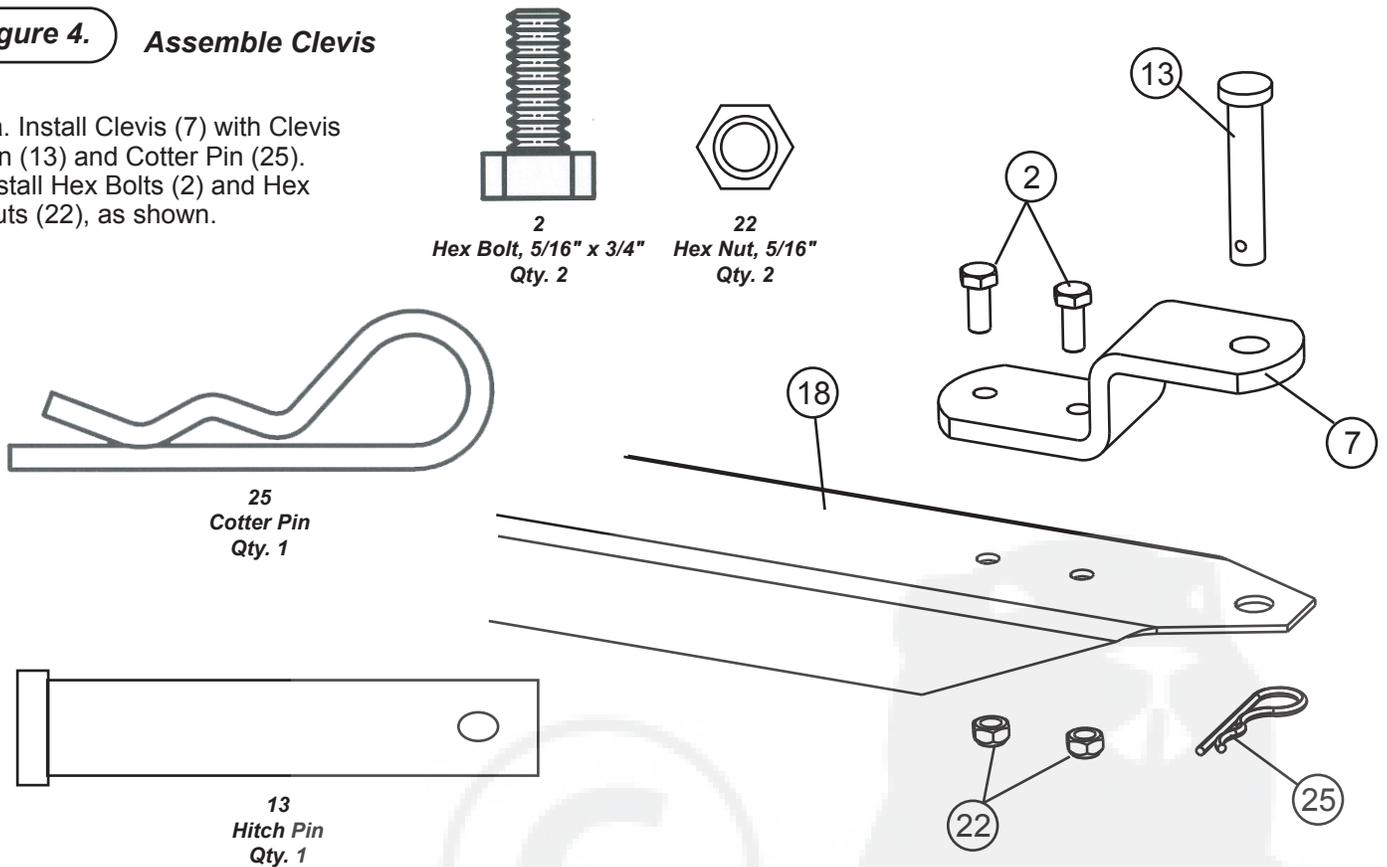

Figure 5. Install Drawbar & Axle
Note: Lock Bracket (12) has slots in it to adjust forward or backward. See final adjustment in Figure 5.